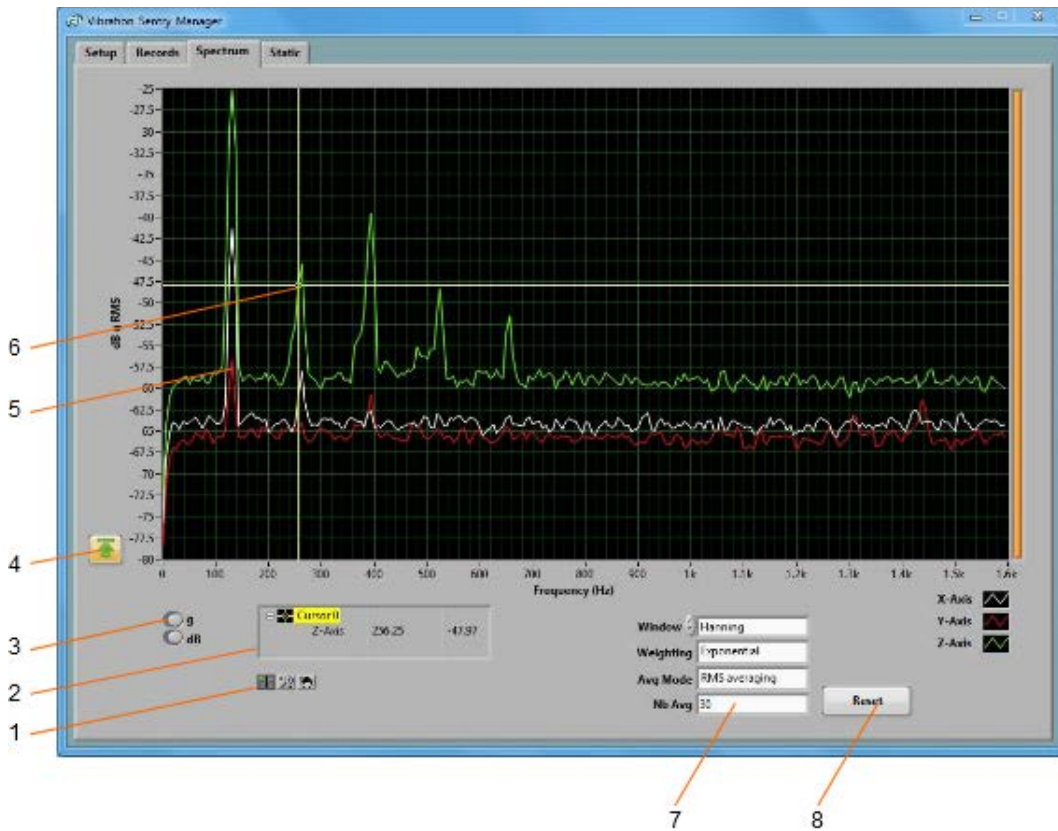

Figure 7 Spectrum Tab
- **The Spectrum Tab:** Is used to display real-time power spectra from the Vibration Sentry RT (see Figure 7).